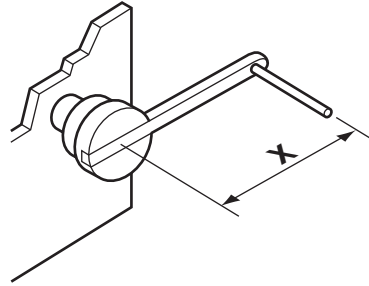

Fig. 2
4 Fig. 2 shows a cranked handle.
Explain the term Mechanical Advantage (MA) for the cranked handle shown in Fig. 2.